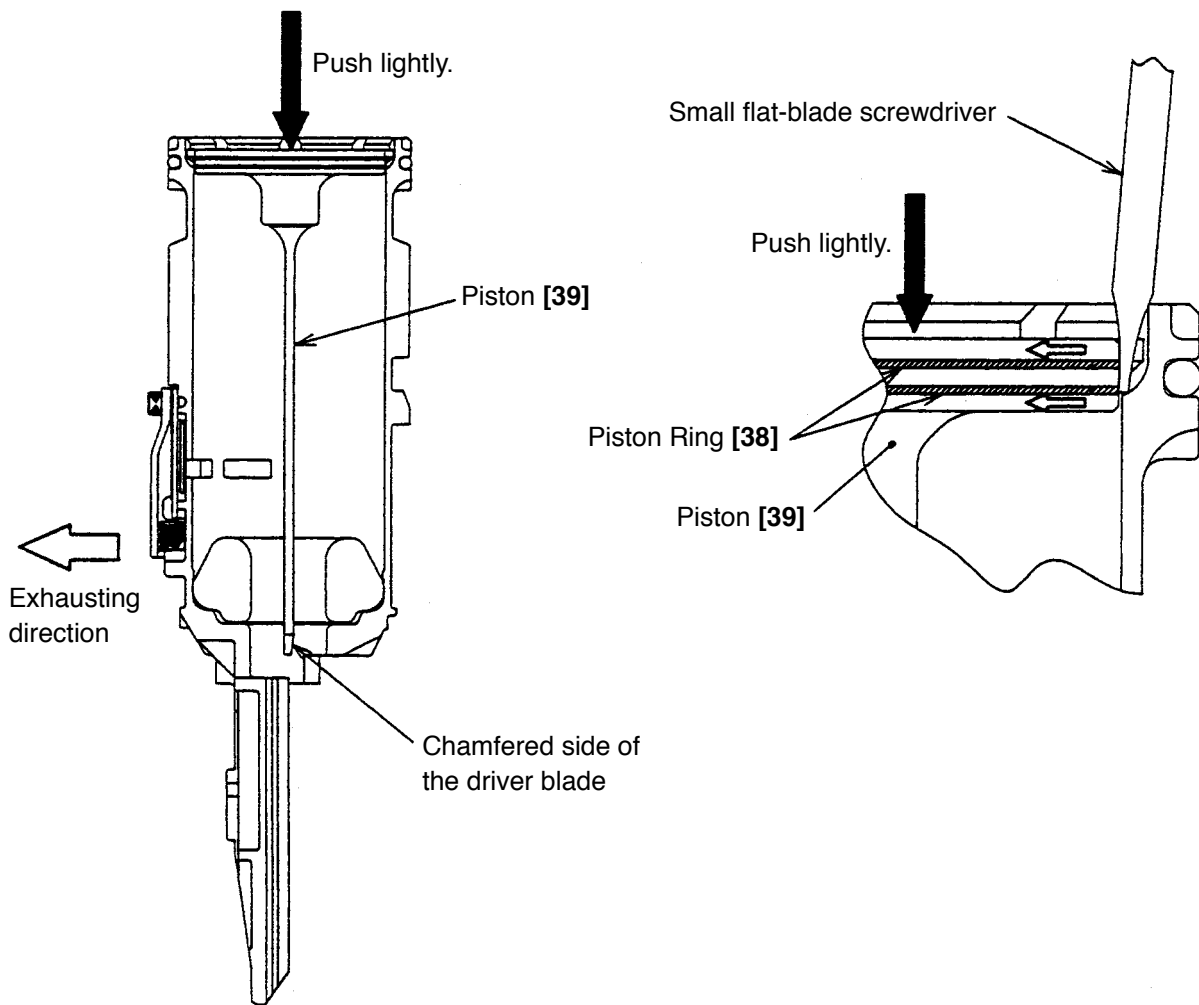

Fig. 39
- (2) If the Piston Ring [38] fits in the retaining ring groove inside the cylinder, insert a small flat-blade screwdriver into the concave portion (7 places) at the end of the cylinder and lightly push the Piston [39] in fitting the Piston Ring [38] in the groove of the Piston [39]. Do not push the Piston [39] in forcedly. Otherwise, the Piston Ring [38] may be damaged (Fig. 39).
- (3) Check that the tip of the driver blade is shown in the outlet. The Piston [39] cannot be mounted if the tip of the driver blade contacts the Piston Bumper [40] or the bottom of the cylinder.
- (4) Face the chamfered side of the tip of the driver blade in the direction opposite to the exhaust port of the Cylinder Ass'y [42] (Fig. 39).